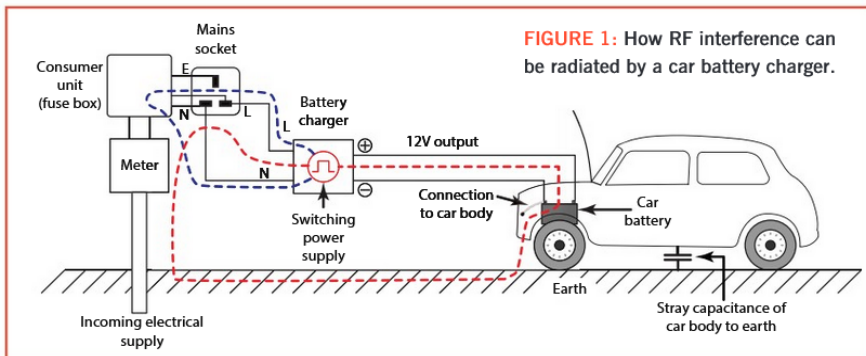

FIGURE 2: Conducted emissions from a battery charger up to 30MHz.
Figure 2 shows a plot of the measured emission up to 30MHz using 9kHz bandwidth and Quasi-Peak (QP) detection. The vertical scale is 10dB per division. Red means that the EN 55014 QP conducted emission limit is exceeded. The markers M1 to M6 are set to frequencies in amateur bands and these show the emission level in dB(µV), that is dB relative to 1 microvolt. Although there are some measurement uncertainties in this test setup, it appears likely that the emissions from this battery charger exceed the EN 55014 QP limit by a substantial margin, up to about 30dB.